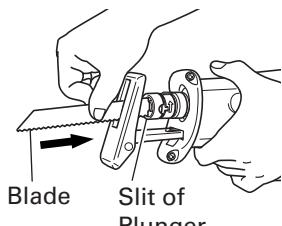
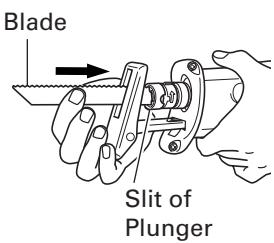

Fig. 4
Fig. 5
- (3) Insert the saw blade all the way into the small slit of the plunger tip. You can mount this blade either in the upward or downward direction. (Fig. 4, Fig. 5)